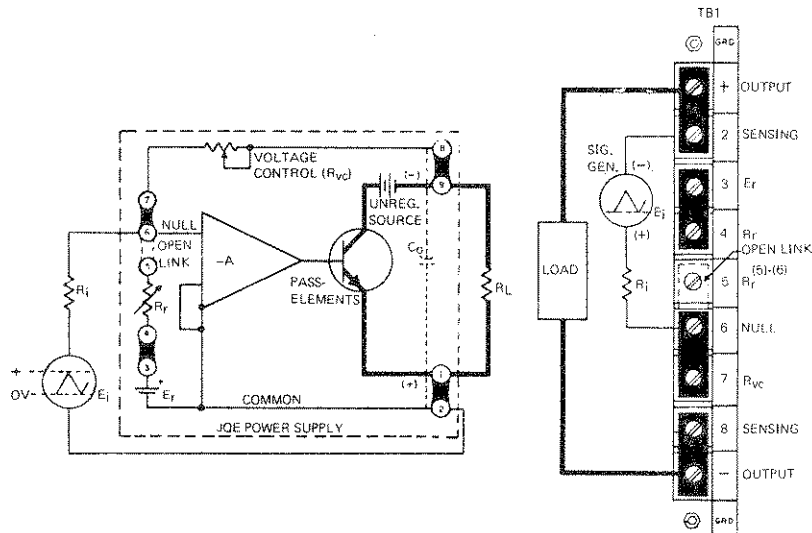

FIG. 3-9 JQE IN THE OPERATIONAL AMPLIFIER MODE
- 3-27 As seen from the expression (Eq.5), if the ratio  $R_{VC}/R_i$  (which represents the closed loop gain of the system) is held constant,  $E_O$  will vary linearly with  $E_i$ , the external programming voltage. The above expression (Eq 5) is seen to be similar to the operational amplifier transfer function in the inverting configuration. The voltage programmed power supply does in fact become a unipolar power amplifier with potentially very high power gain but with limited frequency response. (Refer to FIG. 3-9). The limited frequency response is largely due to the effect of the output capacitor ( $C_O$ ) acting as a low-pass filter and preventing the output voltage ( $E_O$ ) from varying rapidly. The output voltage may be varied over the full range, bounded on the high end by the maximum rated value. A practical example to illustrate component selection will be given below.
3-28 Example: A Kepco Model JQE 36-3M is to be voltage programmed over its full range (0 to 36V) by a triangular, positive increasing source with a peak output voltage ( $E_i$ ) of 2 volts, and able to deliver at least 1 mA control current. Since the required voltage gain is:  $E_o/E_i = 36/2 = 18$ , the ratio  $R_{Vc}/R_i$  must also equal 18. If the internal voltage control is retained, in this case, since  $R_{Vc} = 40$  K ohms,  $R_i$  must equal  $40$  K/18 = 2.22 K ohms. FIG. 3-9 shows the JQE Power Supply as an operational amplifier and the necessary rear barrier connections for this mode of operation.